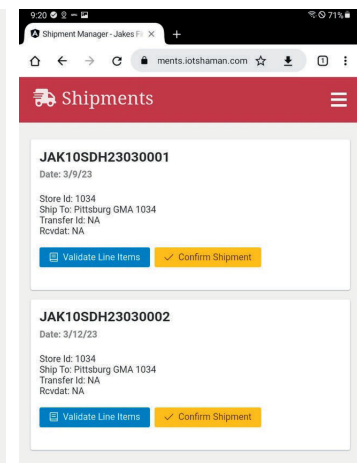

Figure 3
3. Select **VALIDATE LINE ITEMS** on the shipment you received. After this step, rotate your tablet horizontally for the best view (Figure 3).